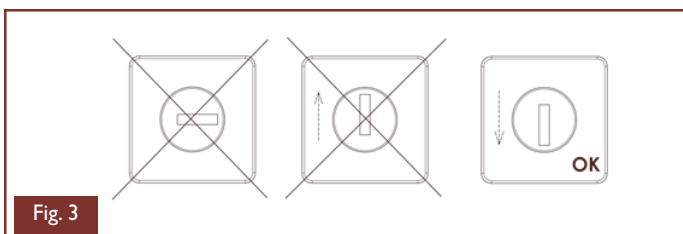

Fig. 3
- Place the lock so that the key hole is vertical, and always directed downwards, see Fig.3